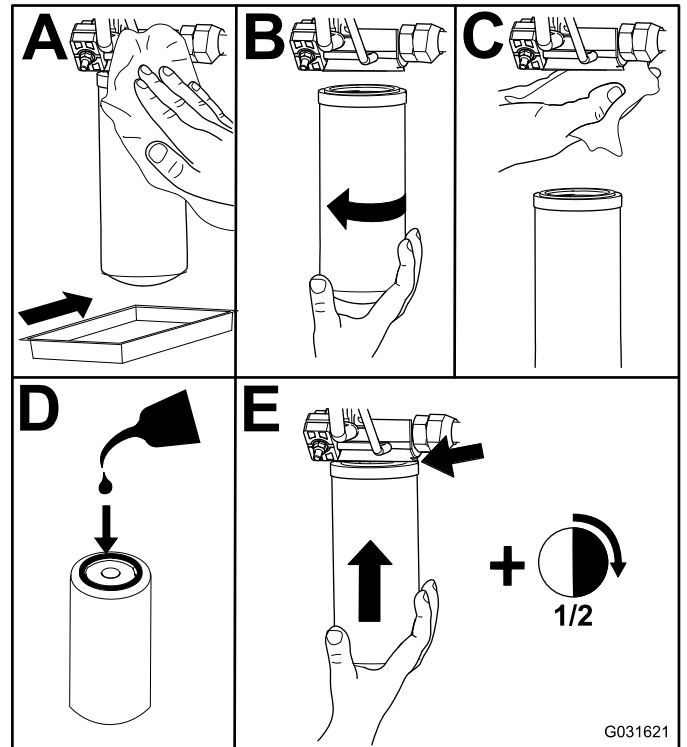

Figure 70
2. Replace both of the hydraulic filters (Figure 70).